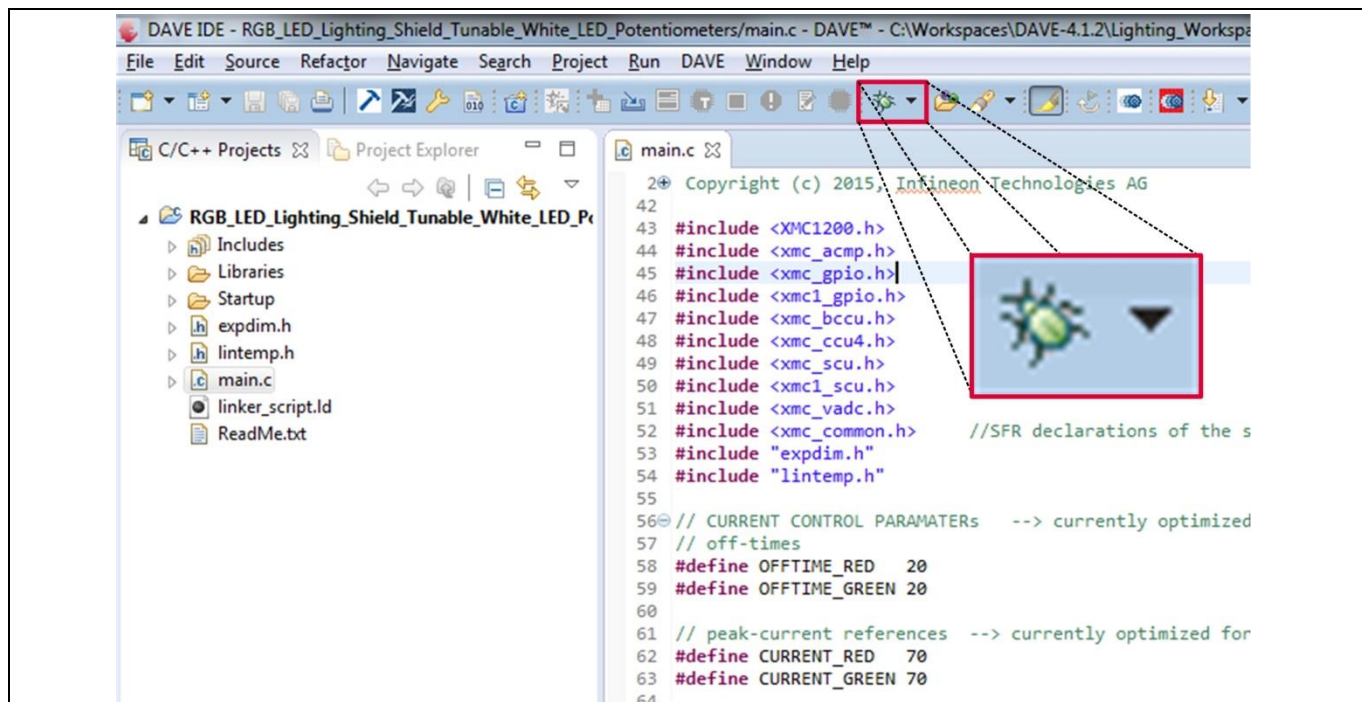

Figure 21 Debug icon
- Click the debug icon on the DAVE™ IDE toolbar (Figure 21). This launches the “Debug configurations” window.